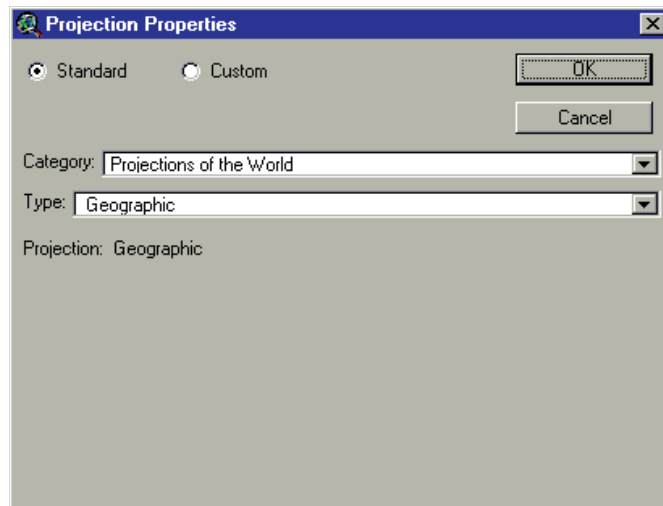
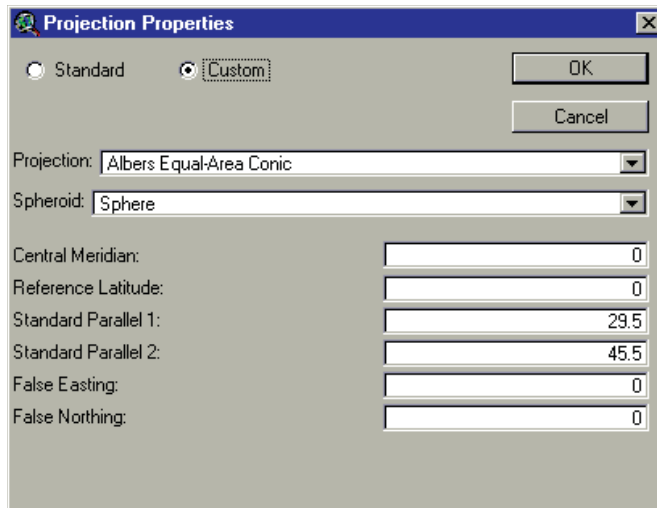

Figure 5.12
Figure 5.13
9. If **Custom projection** was chosen, the dialog box in Figure 5.12 will be displayed. Scroll the drop-down menus for Category and Type to find the project map projection and click the appropriate choices. Once the projection has been selected, standard settings for the projection will be displayed in the lower portion of the dialog box. If the projection settings need to be altered, click the circle beside **custom** and type the correct values for each of the projection properties (Figure 5.13).